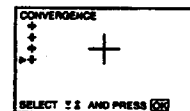

Fig. 4
- 5 Repeat steps 2 to 4 to adjust the other lines, until all the lines have overlapped to form a white cross. (See Fig. 4.)